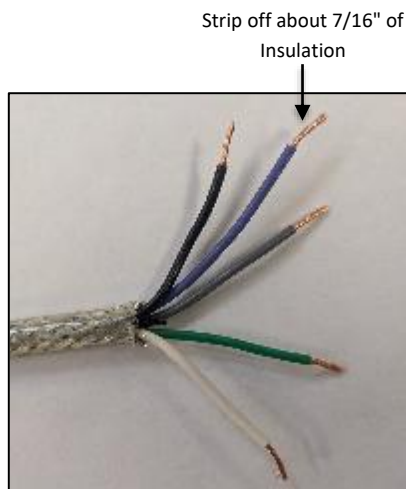
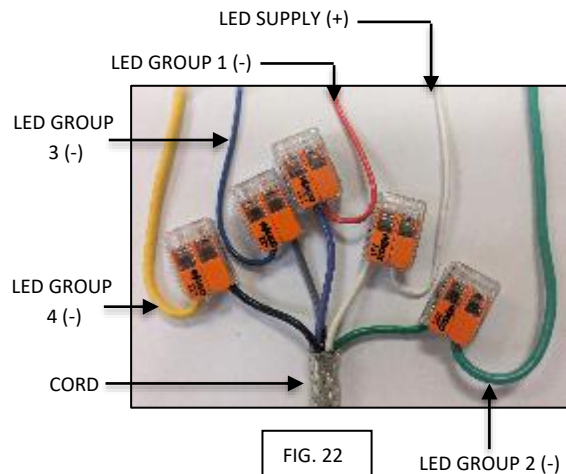

FIG. 21
FIG. 22
- Strip off about 7/16" of insulation from the inside wires and twist inner strands of each wire together as shown in FIG. 21 below. Connect the cord wires to the wires from the decoder as shown below. The internal cord wires are labeled as shown in the table below as shown in FIG. 22 below.